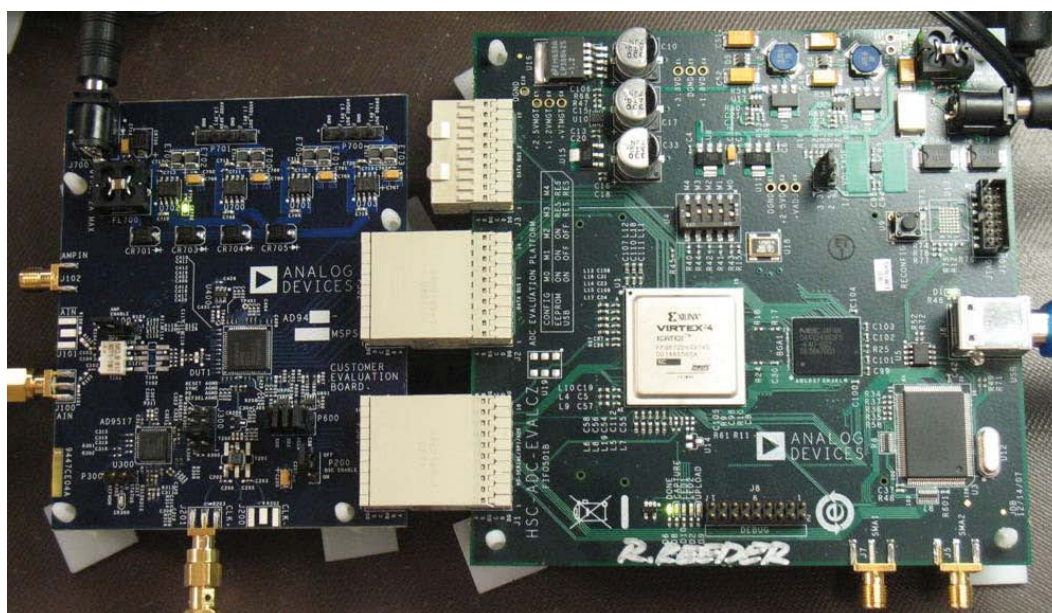

Figure 1. AD9467-250EBZ Evaluation Board and HSC-ADC-EVALCZ Data Capture Board
1. Connect the evaluation board and the HSC-ADC-EVALCZ as shown in Figure 1 and Figure 2.